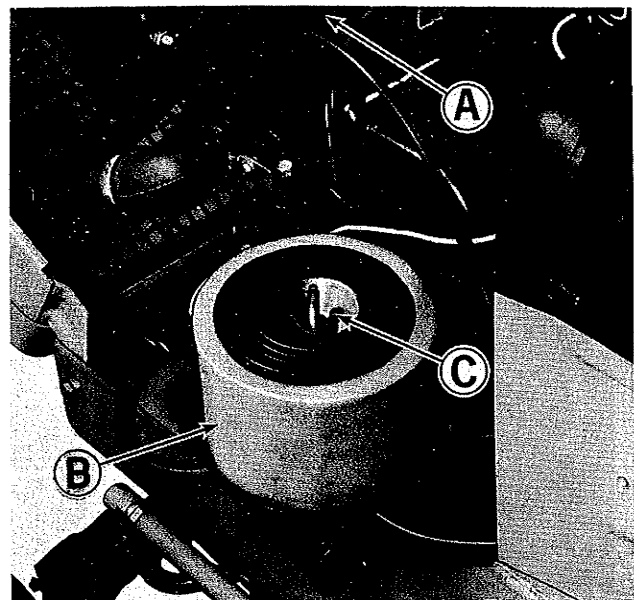

Figure 20. Air cleaner with cover removed on left side of engine.
See figure 20. All grass and chaff should be removed from the engine fins (A); **CAUTION: THE ENGINE FINS ARE VERY HOT AFTER THE ENGINE HAS BEEN OPERATED. DO NOT TOUCH THEM UNTIL THE ENGINE HAS BEEN ALLOWED TO COOL. NEVER SPRAY WATER ON A HOT ENGINE.**
2. See figure 20. Remove the foam precleaner (B) and wash it in liquid detergent and water and squeeze dry.
4. Install the foam precleaner as shown in figure 20.
**CLEAN OR REPLACE AIR FILTER ELEMENT:** The engine air cleaner is made up of two types of filters. The foam filter (Figure 20, Item B) and a dry filtering element. The foam element should be cleaned and oiled every 25 hours as explained under the Every 25 Hour Maintenance Services. Once a year or every 100 hours, whichever occurs first, the paper element should be removed and cleaned or replaced. Proceed as follows:
2. See figure 20. Remove the foam element (B) and clean and oil it as described in the Every 25 Hour Maintenance Service.
3. Remove wing nut (C) and remove the paper element from the air cleaner.
5. See figure 20. Replace the paper element and wing nut (C) and tighten it securely.
6. Install the foam element (B) over the paper element as shown in figure 20.